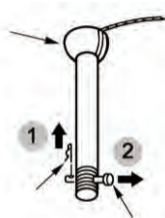

Fig.8
Step 1: Remove the clevis pin and set screw from downrod assembly. (Fig. 8)